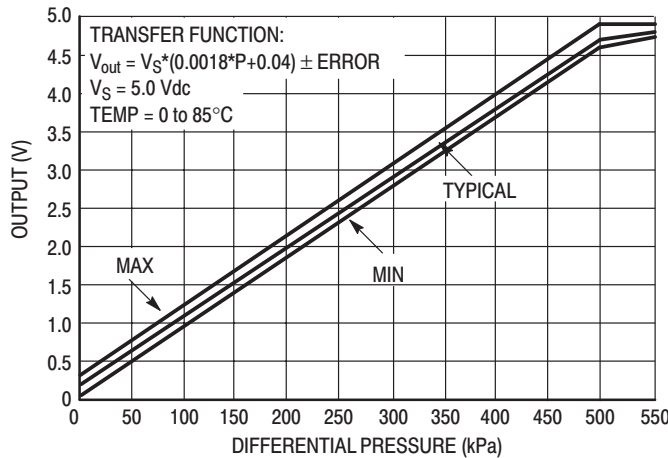
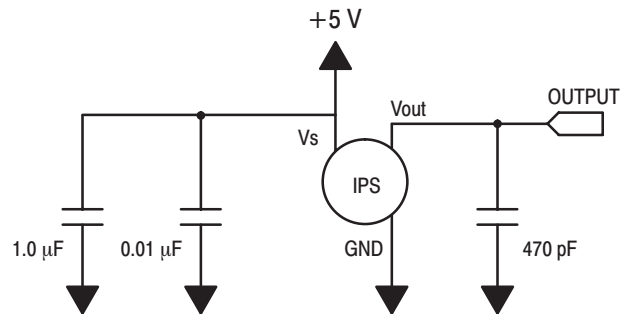

Figure 2. Output versus Pressure Differential
Figure 4. Recommended power supply decoupling and output filtering.
**OPERATING CHARACTERISTICS** ( $V_S = 5.0$  Vdc,  $T_A = 25^\circ\text{C}$  unless otherwise noted,  $P_1 > P_2$ . Decoupling circuit shown in Figure 4 required to meet electrical specifications.)
Figure 2 shows the sensor output signal relative to pressure input. Typical, minimum, and maximum output curves are shown for operation over a temperature range of 0° to 85°C using the decoupling circuit shown in Figure 4. The output will saturate outside of the specified pressure range.
Figure 4 shows the recommended decoupling circuit for interfacing the output of the integrated sensor to the A/D input of a microprocessor or microcontroller. Proper decoupling of the power supply is recommended.